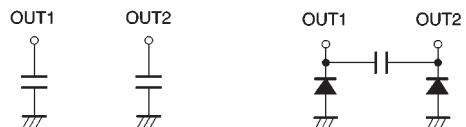

Fig.2
(13) The input pins have temperature-dependent characteristics. Take the temperature effect into consideration when using the IC.
(14) To eliminate motor noise, connect a capacitor between OUT1 and GND and between OUT2 and GND. Alternatively, connect a capacitor between OUT1 and OUT2, and also a diode between OUT1 and GND and between OUT2 and GND (see Fig. 2).